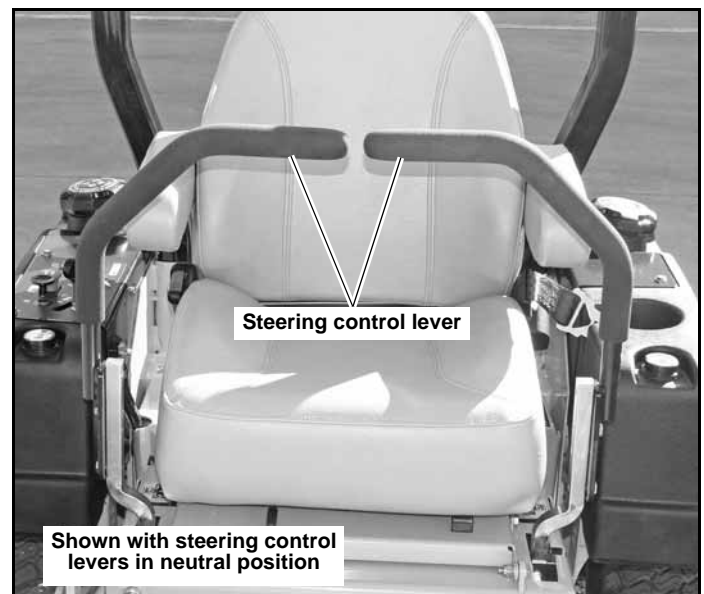

Figure 3-2
- A. **Steering control levers (Figure 3-2 & Figure 3-3)** — these levers control the mower’s speed, direction, stopping, and park brake. These levers are used to steer, accelerate, decelerate and change direction. When the steering control levers are in the park brake position the mower will not move when the engine is on and drive pumps are operating.